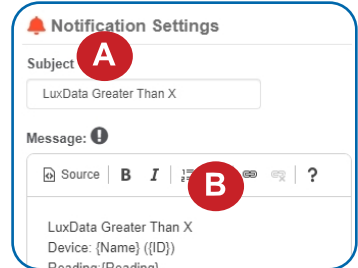

Figure 18
A. Input the subject for the notification. See Figure 18.
B. Customize the message body for the notification. See Figure 18.